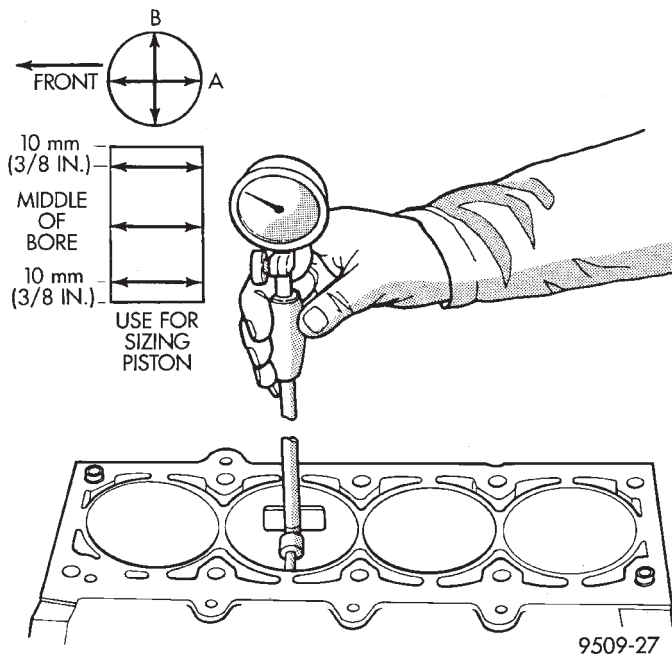

Fig. 12 Cylinder Bore Measurement
(1) It is mandatory to use a dial bore gauge to measure each cylinder bore diameter (Fig. 12). To correctly select the proper size piston, a cylinder bore gauge, Special Tool 6879, capable of reading in .0001" INCREMENTS is required. If a bore gauge is not available, do not use an inside micrometer.